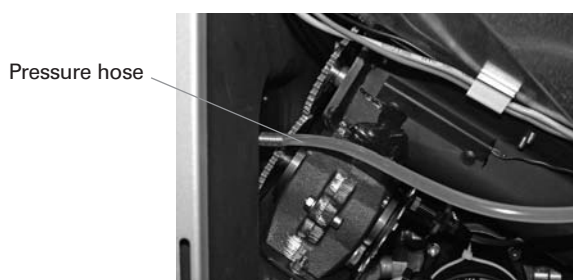

Fig. 96 Pulling off the pressure hose
- Pull the pressure hose off the pressure measuring nipple (Fig. 96) and clean the induction opening in the pressure measuring nipple, e.g. using a small screwdriver, drill bit or the like – Fig. 97.